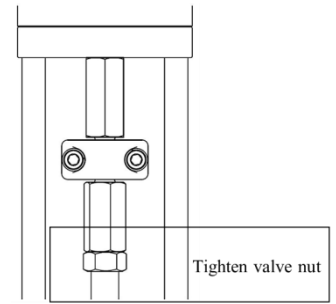

Figure 3
**⚠ Fasten the Valve Connector Nut with wrench and tighten the valve nut toward the Valve Connector Nut (Figure 3).**